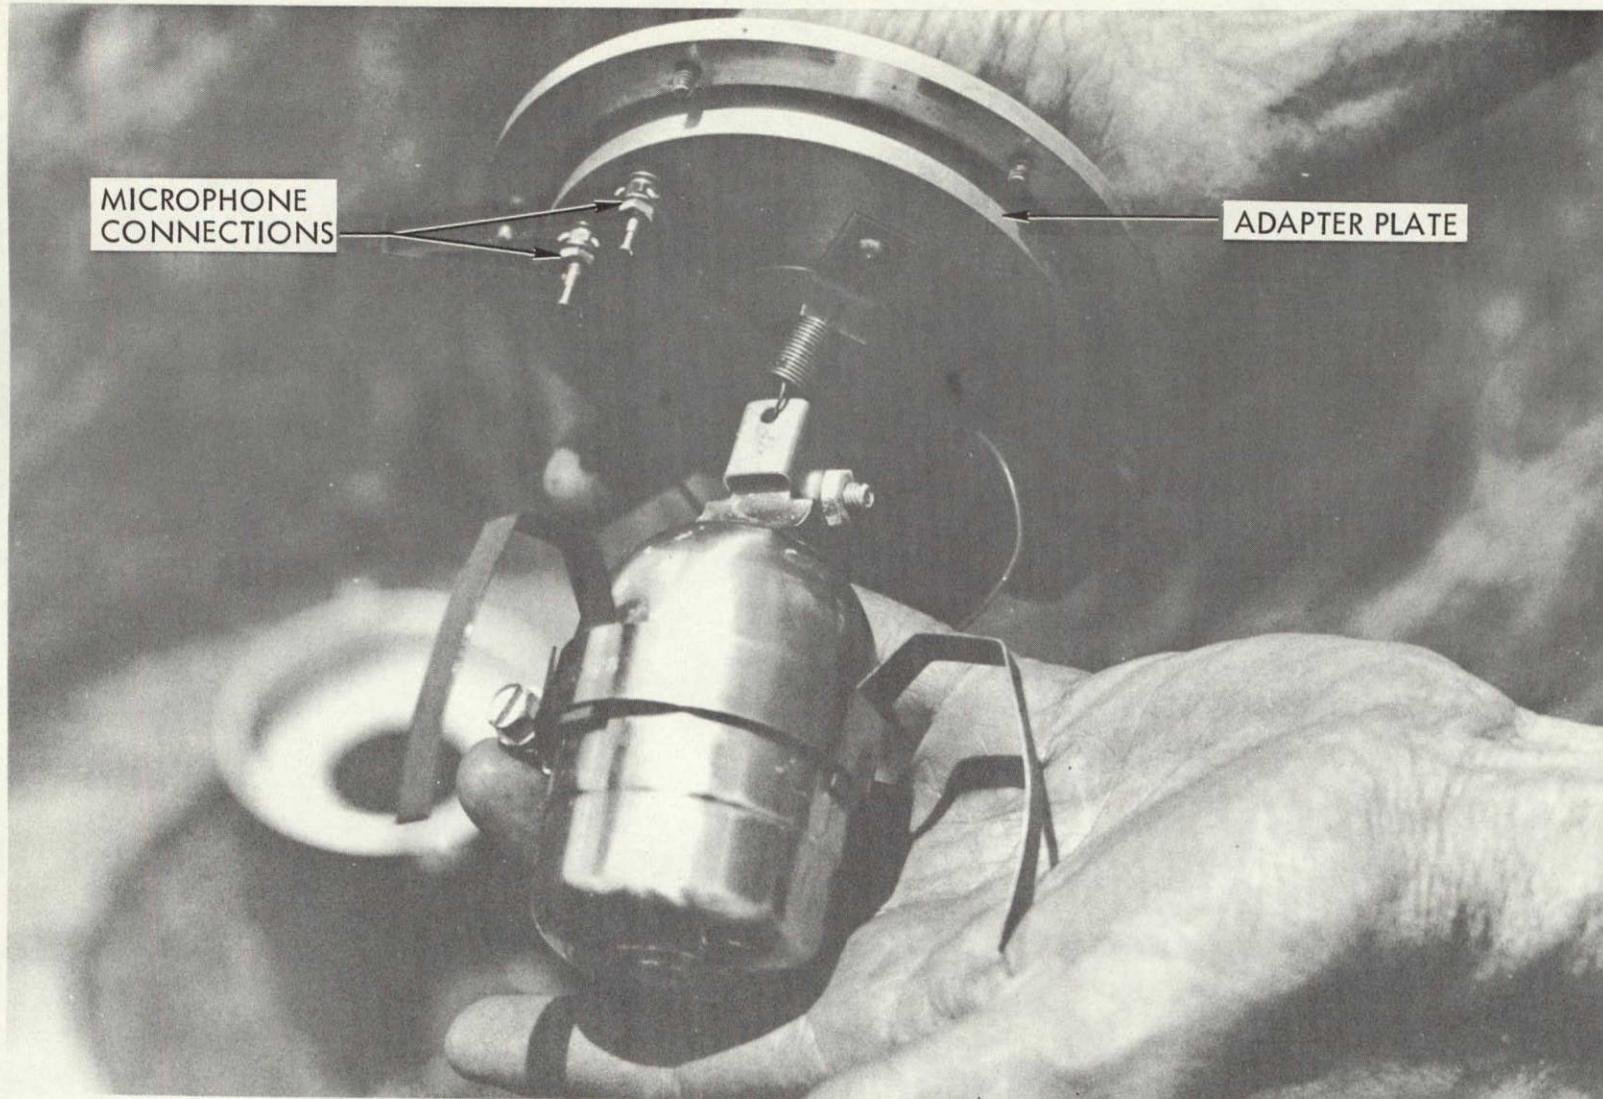

Fig. 9. Microphone adapter connection
- 1) Attach one of the microphones to an adapter plate by attaching the terminals and hooking the spring (Fig. 9).